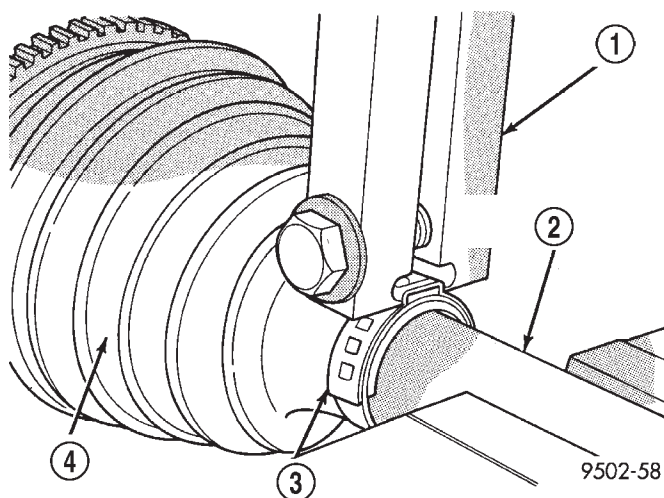

Fig. 47 Crimping Tool Installed on Sealing Boot Clamp
(6) Install outer C/V joint sealing boot to interconnecting shaft clamp evenly on sealing boot.
(7) Clamp sealing boot onto interconnecting shaft using crimper, Special Tool C-4975-A and the following procedure. Place crimping tool C-4975-A over bridge of clamp (Fig. 47). Tighten nut on crimping tool C-4975-A until jaws on tool are closed completely together, face to face (Fig. 48).